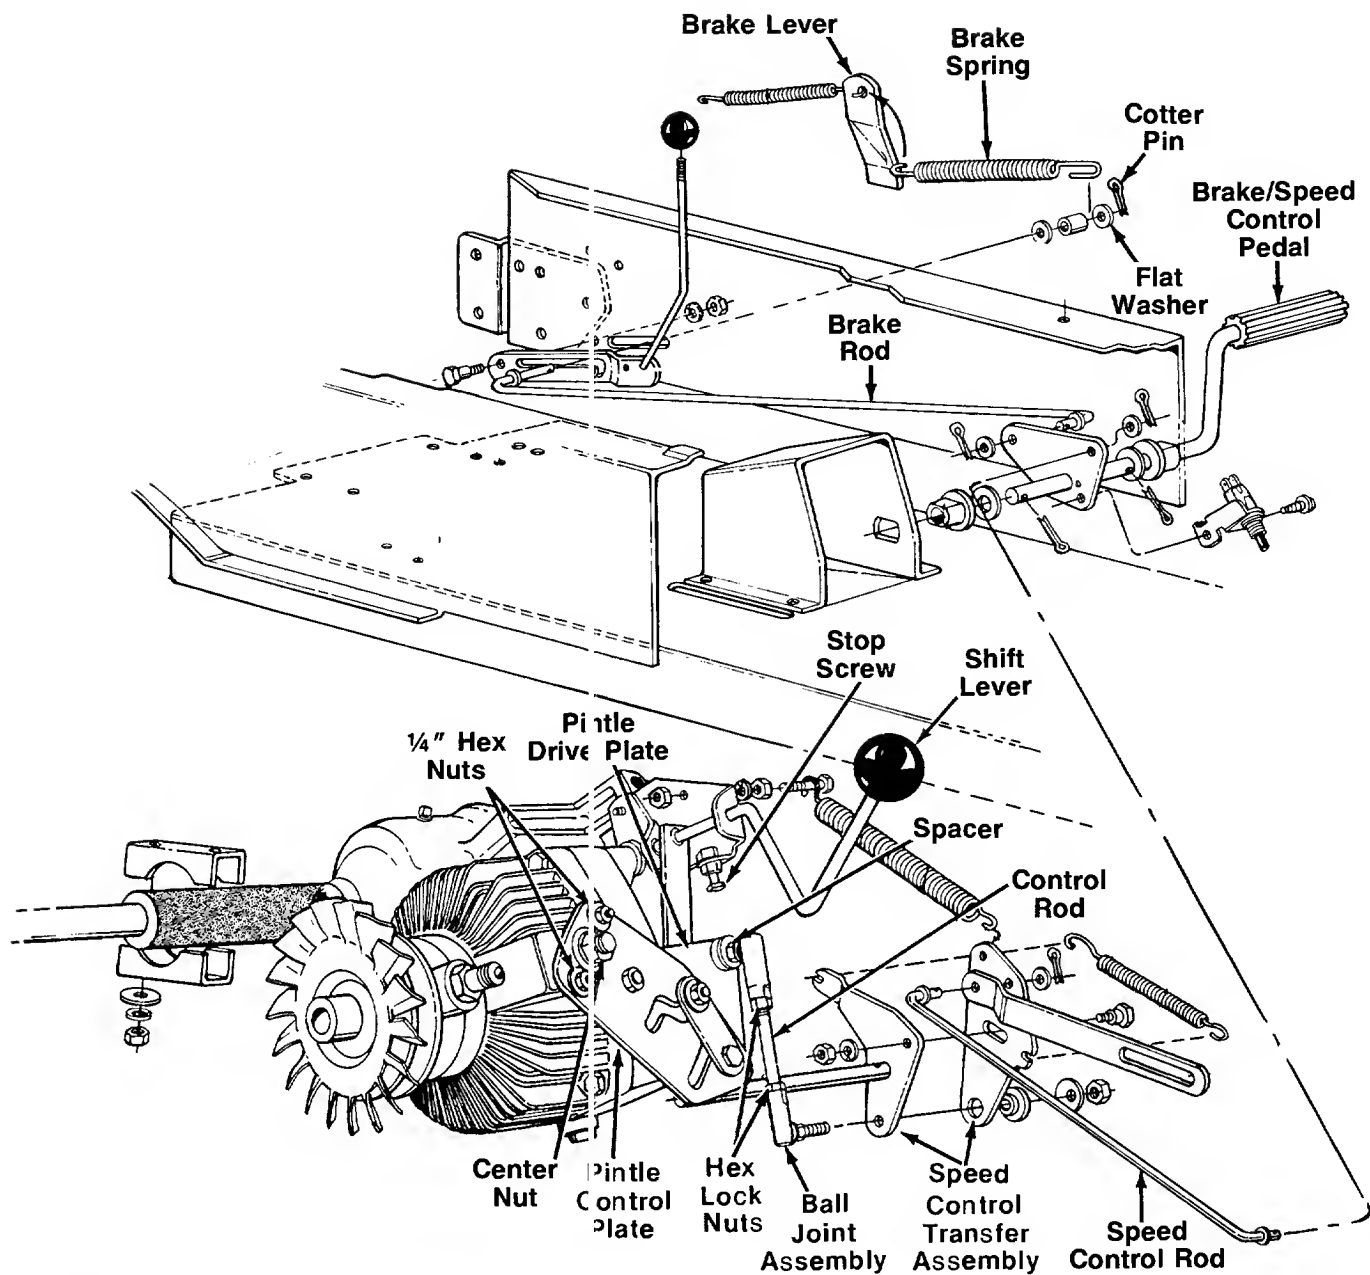

FIGURE 10.
### HYDROSTATIC CONTROL ADJUSTMENT (See figure 10)
5. Move shift lever to forward position, and move pintle control plate to fast forward (position shown in figure 10). Be certain to hold the pintle control plate in this position as you tighten the hex nuts in steps 6 and 7.
#### NEUTRAL ADJUSTMENT (See figure 10)